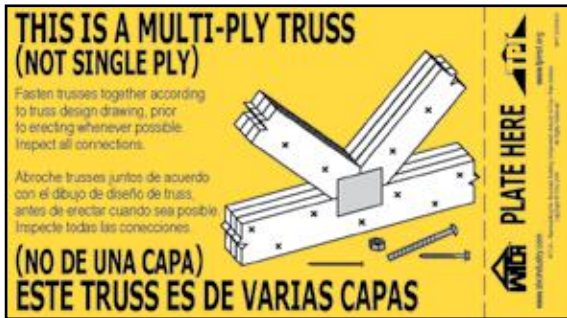

FIGURE B9-3
- Some Truss Manufacturers mark Girder Trusses with supplemental tags, calling further attention to the number of plies and fastening schedule on the TDD. An example of one such Truss tag is shown in Figure B9-3.